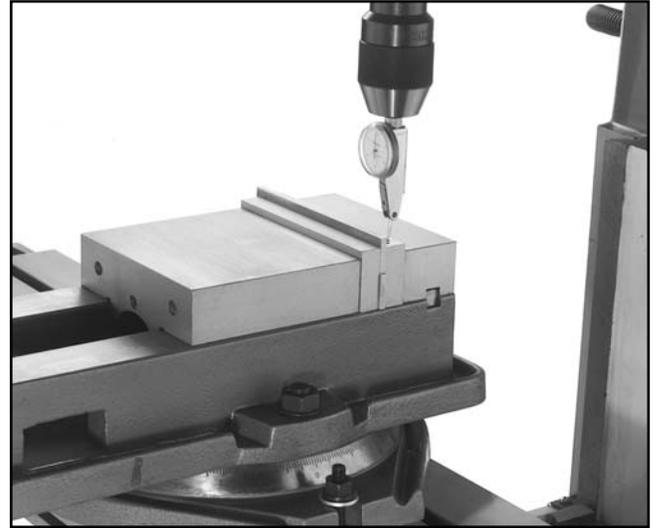

Figure 6. Dial indicator testing alignment.
5. Position the vise so the indicator lever contacts the stationary vise jaw or a parallel mounted into the vise (as in **Figure 6**) on the right hand end.